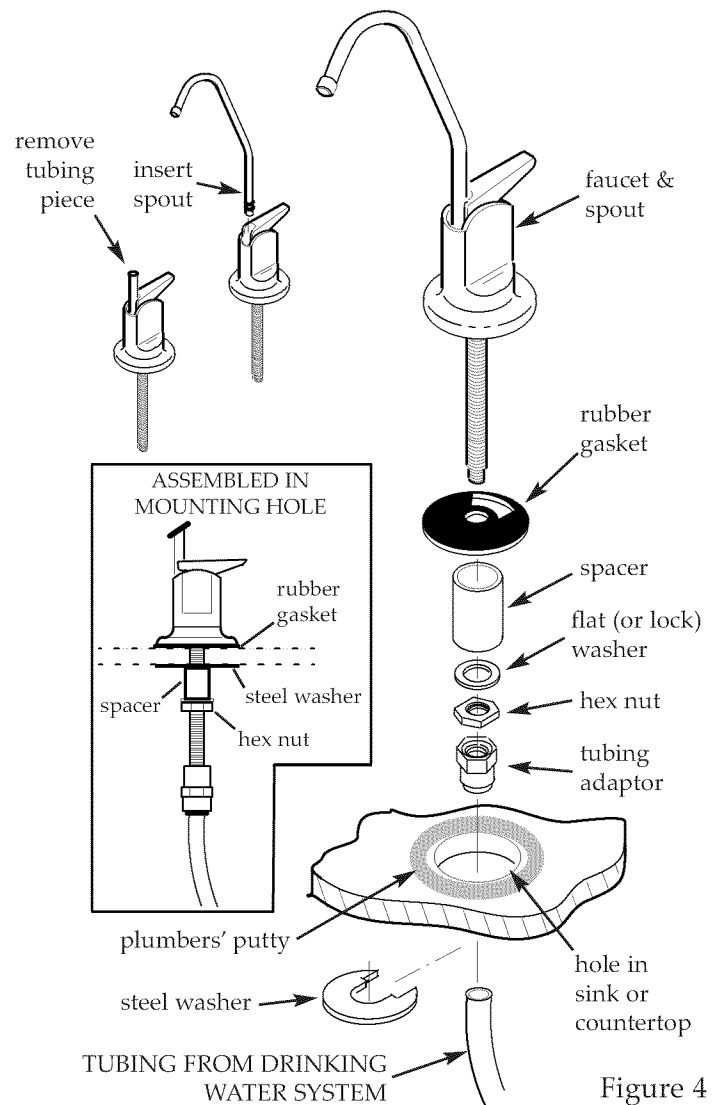

Figure 4
**FAUCET** (Refer to Figure 4)